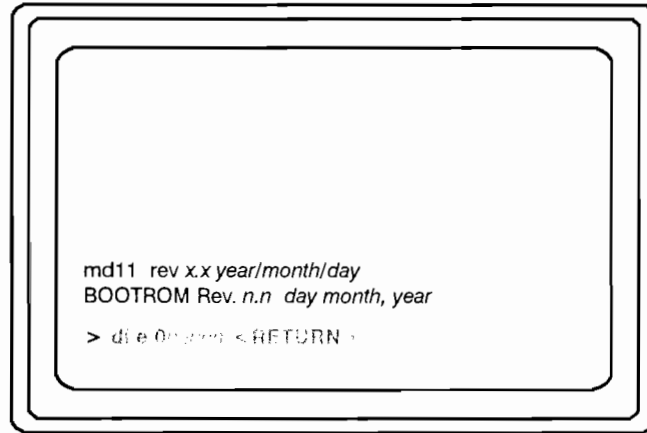

Figure 10-7. Booting from a System Other than the Partner Node
3. To boot from a system other than the partner node, type the command shown in Figure 10-7, where *nnnnn* is the disked system's node ID. If the node ID begins with a letter (A through F), insert a 0 (zero) before the node ID.